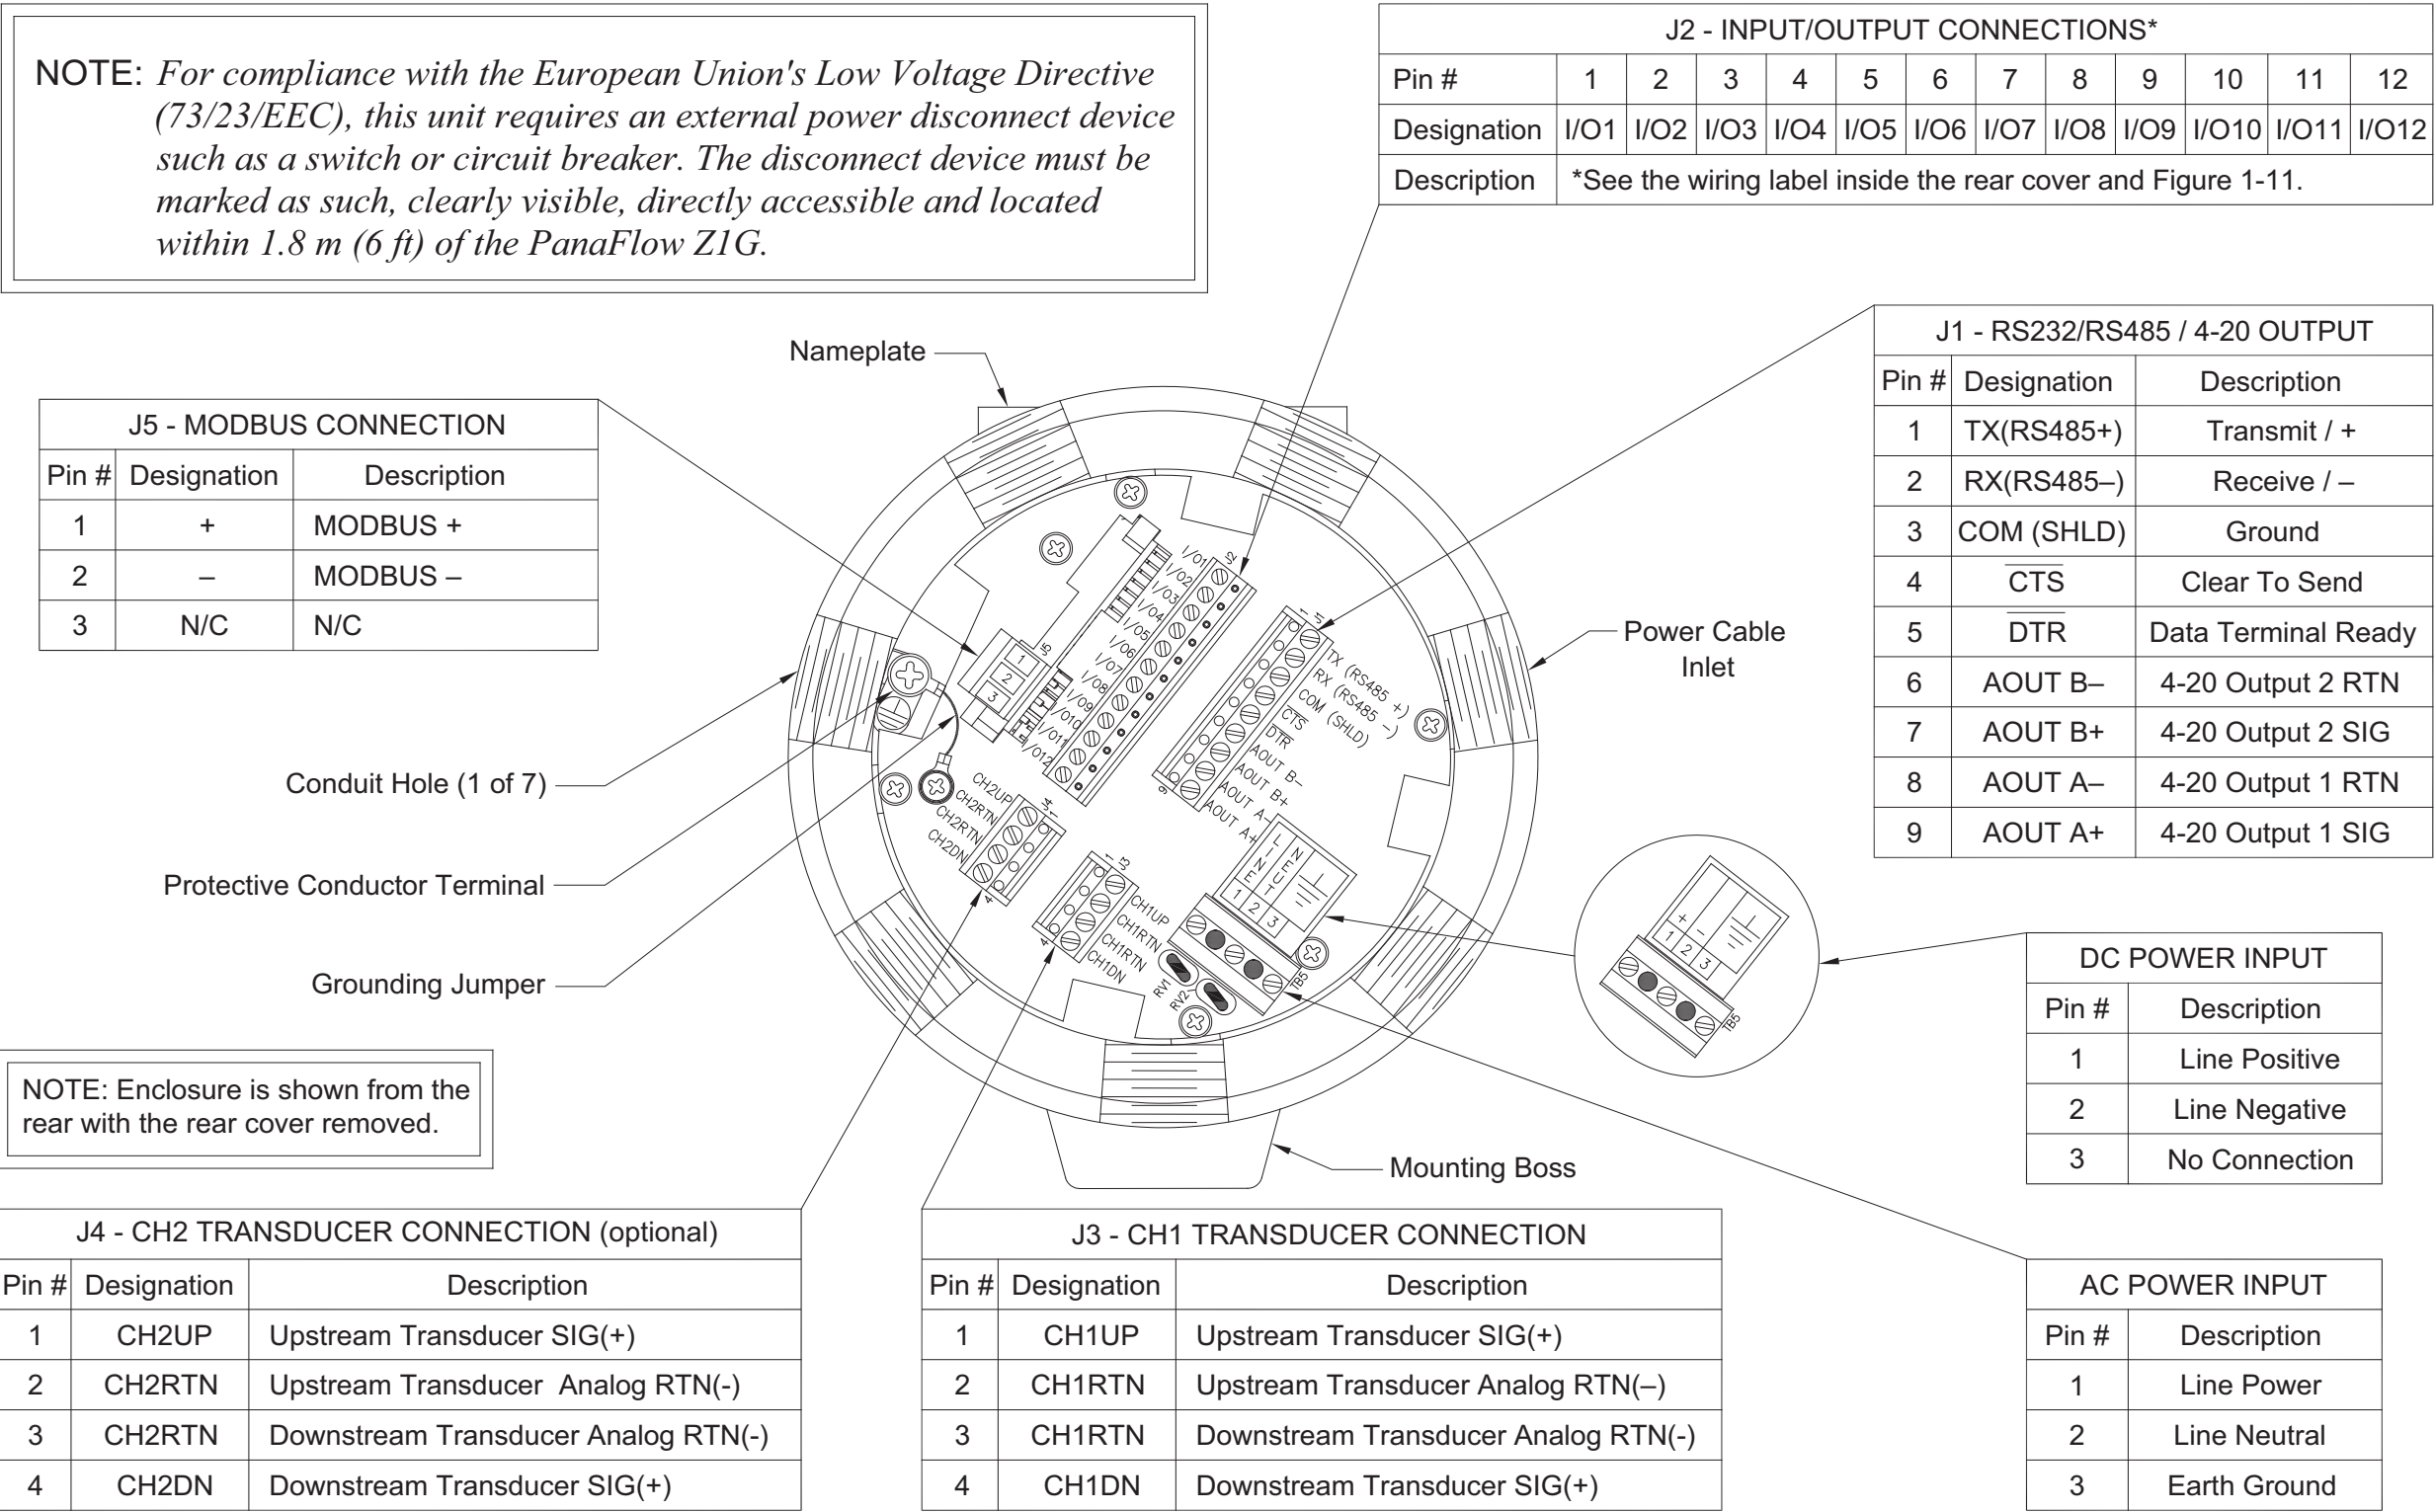

Figure 9: PanaFlow Z1G Wiring Diagram
3. Locate the 12-pin terminal block (J2) in Figure 9 on page 22 and wire the option card as indicated on the label inside the rear cover (see Figure 4 on page 6 and Figure 5 on page 12). Secure the cable clamp.